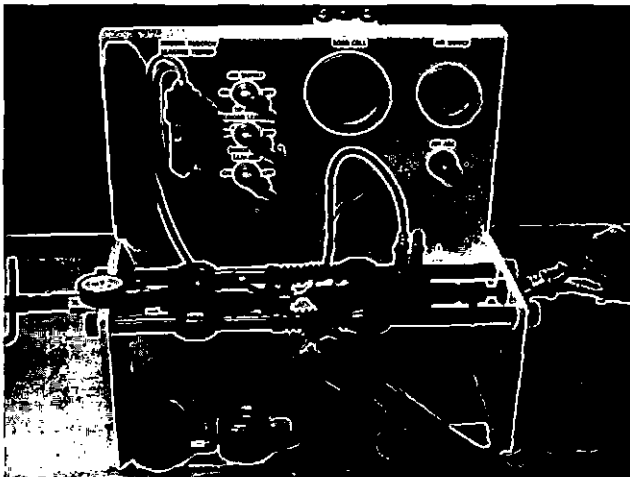

Fig. 4-12, (F60244). Install the injector in the leakage tester
5. Secure the assembly by clamping the locking lever, Fig. 4-12. Install the black hose in the injector drain (port nearest operator) and the white hose in the supply port.
7. Insert the 3375396 Link into the 3375397 Adapter for the standard PT (type D) and use the 3375398 Link for "K" engines without the 3375397 Adapter. Install the entire assembly into the injector guide, link end first. Secure in place with the locking lever, Fig. 4-12.